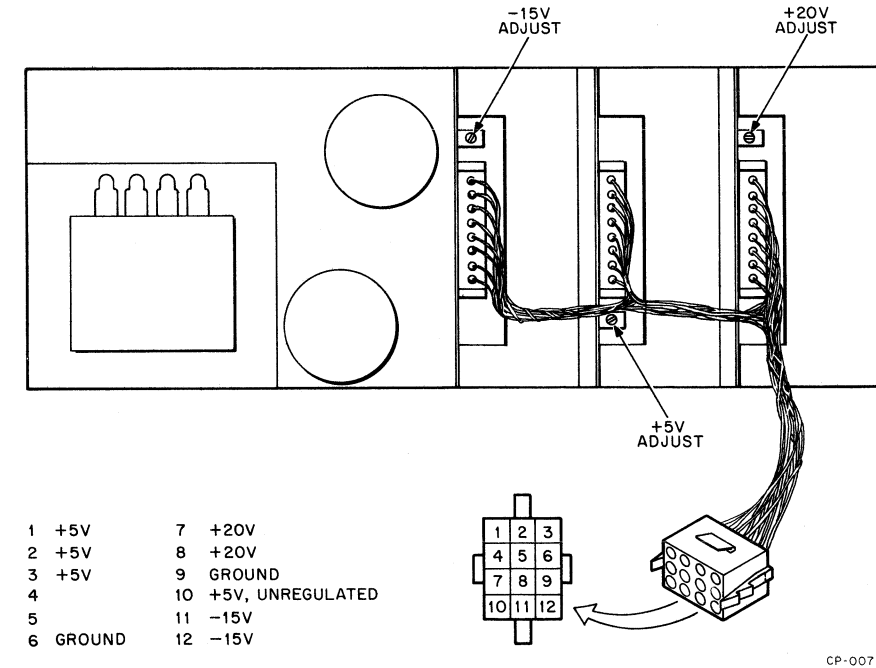

Figure 5-3 Power Supply Adjustments and Connector Pin Assignments
2	Open rear door of cabinet to gain access to power supply. Extend the disk chassis as necessary to expose power supply adjustments (Figure 5-3). (continued on page 5-3)
- 3 Remove power supply loads by disconnecting output connector, Figure 5-3, on top of supply.
- 5 With no loads, adjust power supply outputs to values shown below. (Refer to Figure 5-3 for the location of adjustments and access points.)